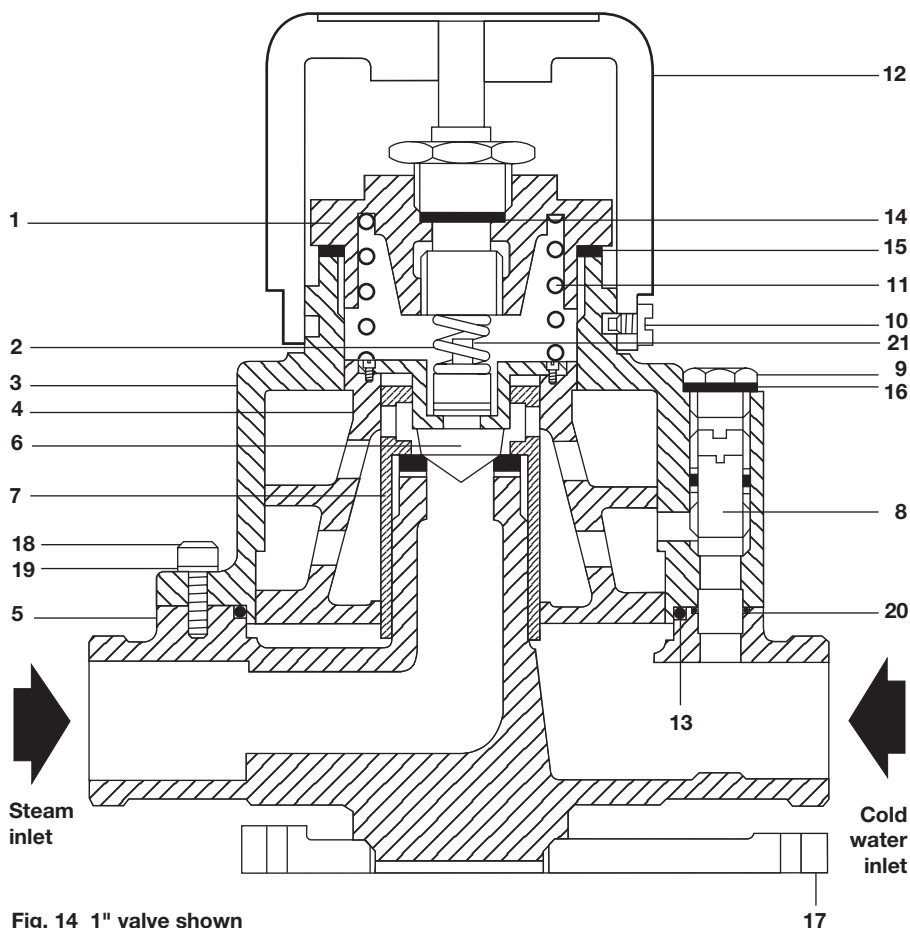

Fig. 14 1" valve shown
Once correctly installed the temperature is adjusted as follows (refer to Figure 14, page 20):
Referring to Figure 14, page 20. Remove the temperature adjustment knob (12) by loosening the holding screw (10). Unscrew the upper head (1) and remove the fixed loading spring (11). Remove the upper body (3) by taking out the 8 x 6 mm set screws (½" and ¾" mixing valve); 8 x 8 mm set screws (1" and 1½" mixing valve). The upper and lower bodies may be eased apart. All parts should now be cleaned using a proprietary de-scaler.